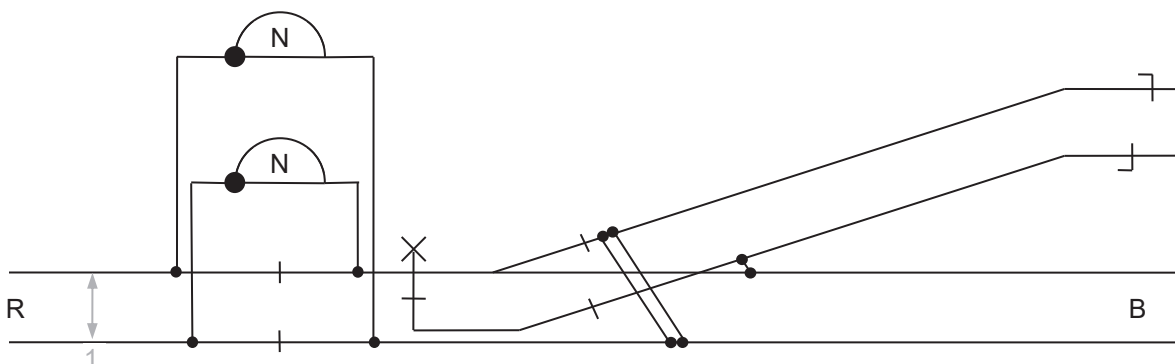

Figure 1: Switch Circuit Controller: Break, One Direction
4. Check Initial State	<ul style="list-style-type: none"> Set the multi-meter voltage to a low voltage range. Connect the meter between the rails of the relay side as indicated in Figure 1 with proper polarity. → Check the meter indicates normal track voltage.